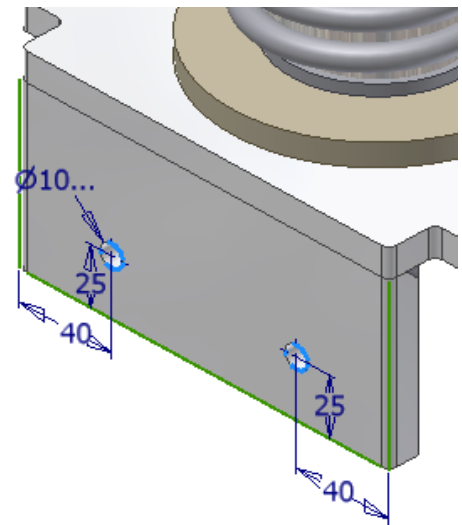

Figure Step 4
Step 4 On a new sketch, draw and dimension as shown. (Figure Step 4)